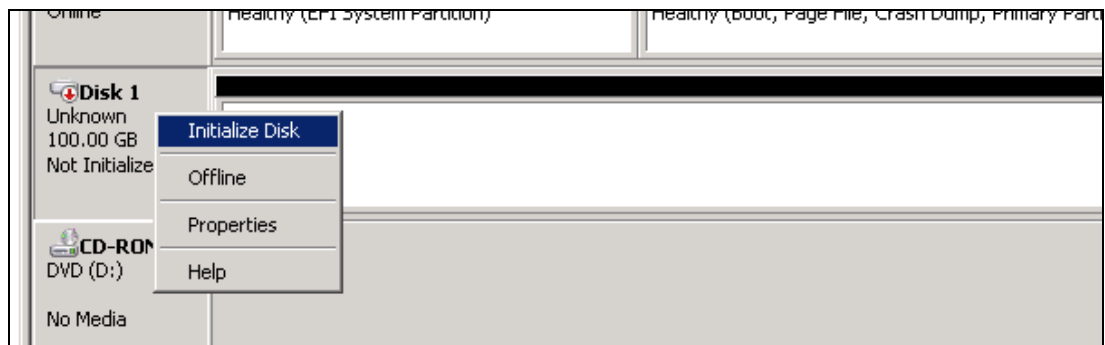

Figure 5-62 Initializing disk
7. Right-click the disk again and then click **Initialize Disk**, as shown in Figure 5-62.